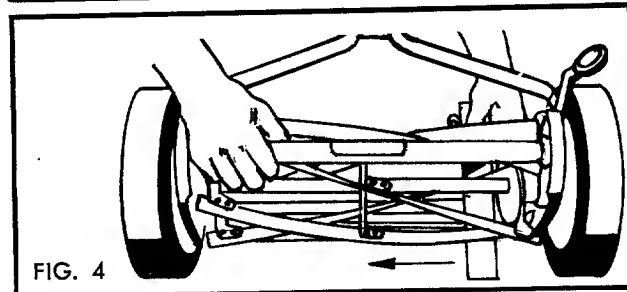

FIG. 4
1. Insert strip of newspaper approx. 2" wide between cutter bar and reel (Fig. 4).